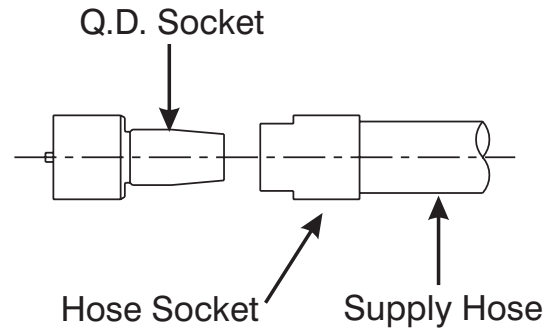

Figure 8-14. Q.D. Socket and Hose
- a. Use a 2-inch open-end wrench to hold the Hose Socket (14).
- b. Use a 2-inch open-end wrench to thread the Q.D. Plug (15) from the Hose Socket (14).
- c. To remove the hose socket from the Whip Hose (13), refer to step 6, below.
4. Separate the Q.D. Socket (17) from its Hose by threading the Q.D. Socket (17) out of the Hose Socket (14). Refer to Figure 8-14.